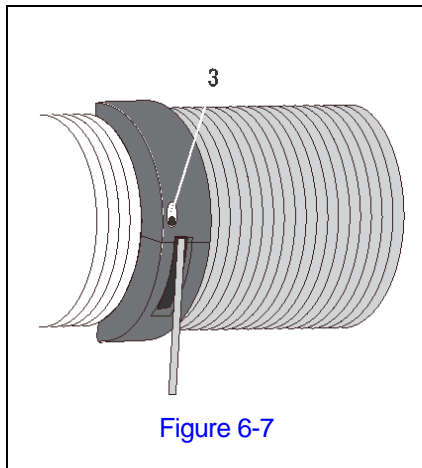

Figure 6-7
- Unscrew screws (3). See Figure 6-7.